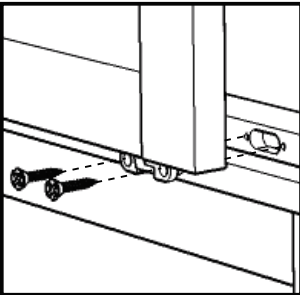

Figure 6
Attach Doors (J) and (K) to unit by inserting the door hinges into the slots in unit and attach with Wood Screws (long). (See Figure 6)